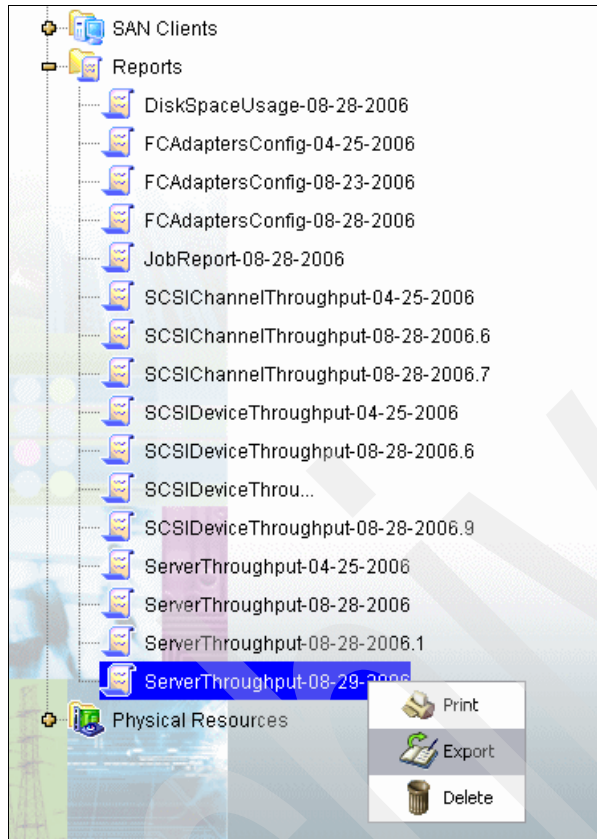

Figure 7-11 Export a report
1. Right-click the report name in left panel and select **Export** from the pull-down menu. This is shown in Figure 7-11.